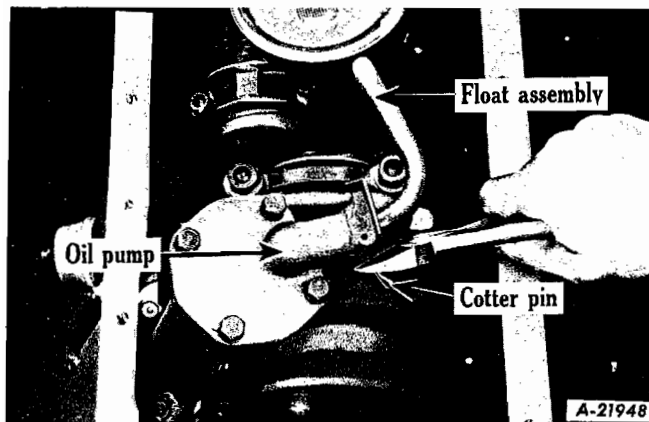

Fig. 44
1. Remove cotter pin holding float to oil pump (Fig. 44). Remove float from pump. Remove two capscrews holding pump in block. Remove oil pump.